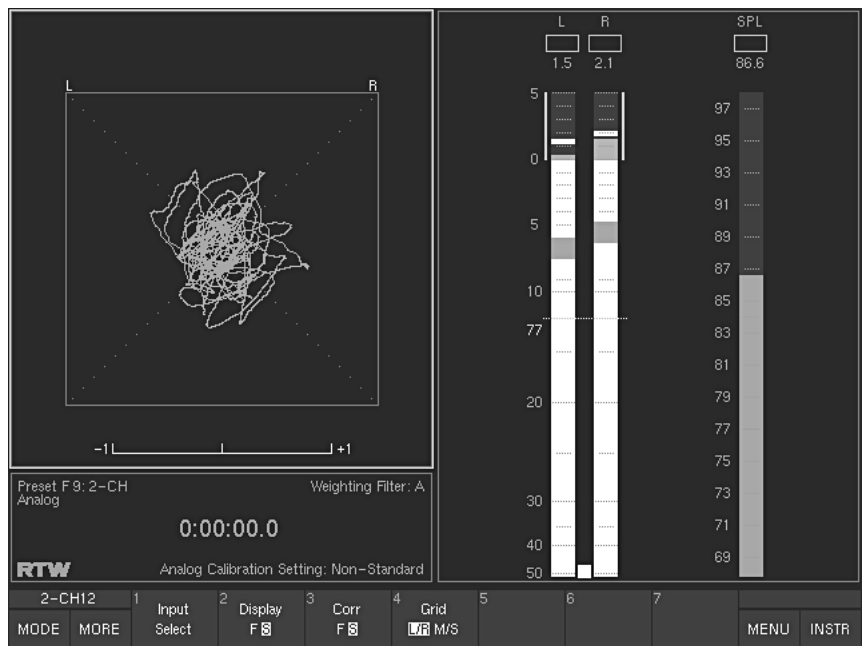

Fig. 5-16: The Audio Vectorscope instrument (VSC) in 2-Channel Stereo mode
(Button/key 1, see Fig. 5-16)
(Button/key 2, see Fig. 5-16)
(Button/key 3, see Fig. 5-16)
(Button/key 4, see Fig. 5-16)